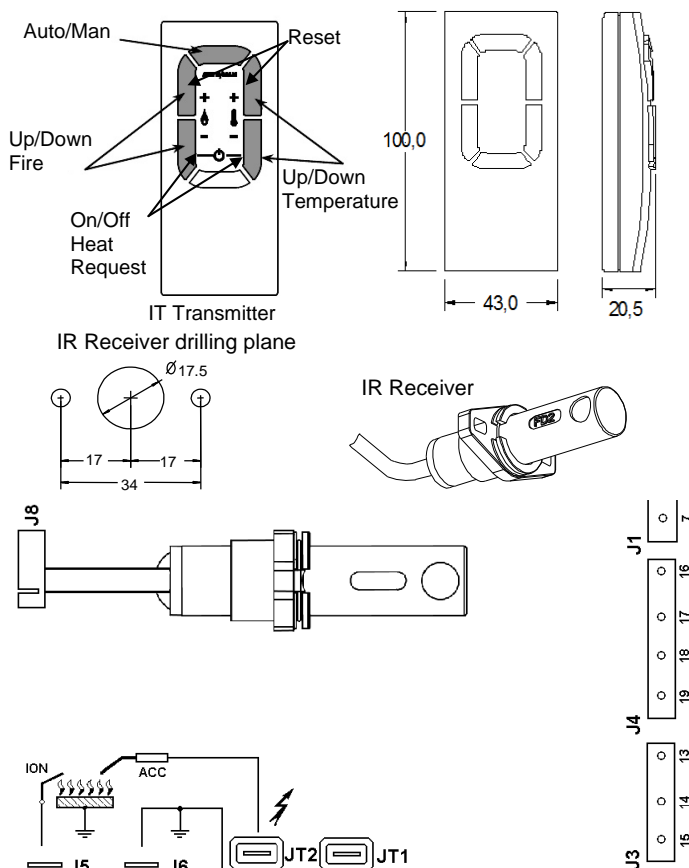

Fig. 5.e – Transmitter and Receiver dimensions, fixing and wiring diagram to NDM device with option URn.
During operation, the contact of the heat request (T) of the NDM device must be in working position. Figure 5.a shows the overall dimensions (mm) of the transmitter, the sizes of the fixing templates (mm) of the receiver and the wiring diagram of the receiver to the J8 gate of NDM or NDMO devices with URn options.
The heat request, by the IR transmitter, is activated (or deactivated) by simultaneously pushing of the "down" buttons, while the reset is activated by simultaneously pushing of the "up" buttons (see fig. 5). The reset are limited to 5 actions every 15min. The functions up/down and auto/man of the IR transmitter can be set on request.